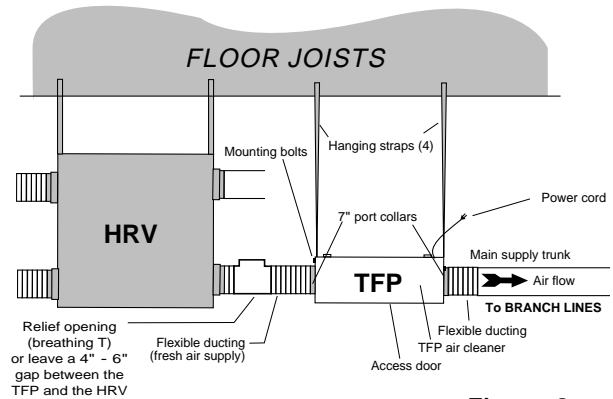

Figure 3
The TFP should be located in the main trunk of the fresh air to house line, after the Heat Recovery Ventilator (HRV) and before any branch lines. (Fig. 3)
1. Locate mounting bolts (4) on side of TFP cabinet for vertical hanging (Fig. 3) and remove.
1. Install (2) 7" port collars (provided) on TFP cabinet with (8) 8/32" X 3/8" sheet metal screws provided (Fig. 3).
4. A short piece (1-2 foot) of flexible ducting should be used on both sides of the TFP (Fig. 3). This will reduce vibration and noise transfer if present.